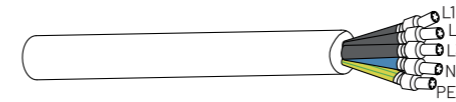

Figure 3-9
- 2) Crimp N/L1/L2/L3 cables as figure 3-9: